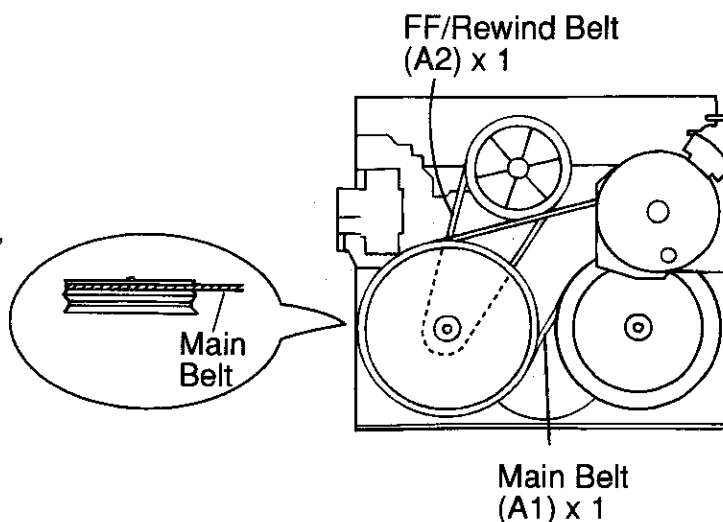

Figure 10-3
**How to remove the main belt, FF/rewind belt (See Fig. 10-3.)**